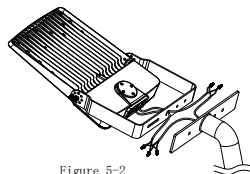

Figure 5-2
Step2: Connect the input wires of the fixture to the mains properly, Figure 5-2;